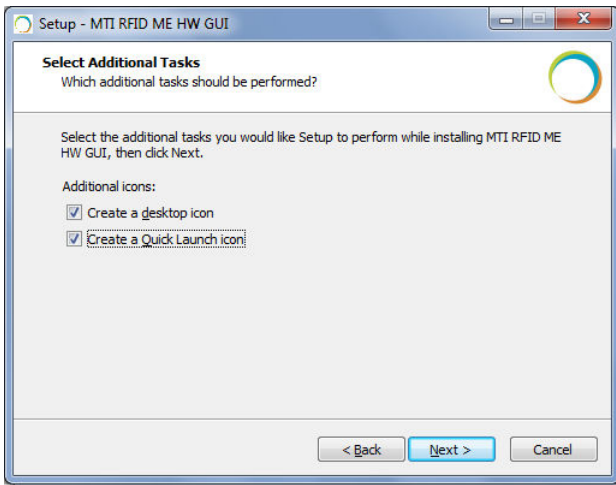

Figure 5
2.1.5. To add additional icons, “Check” the desired boxes as shown in Figure 5.